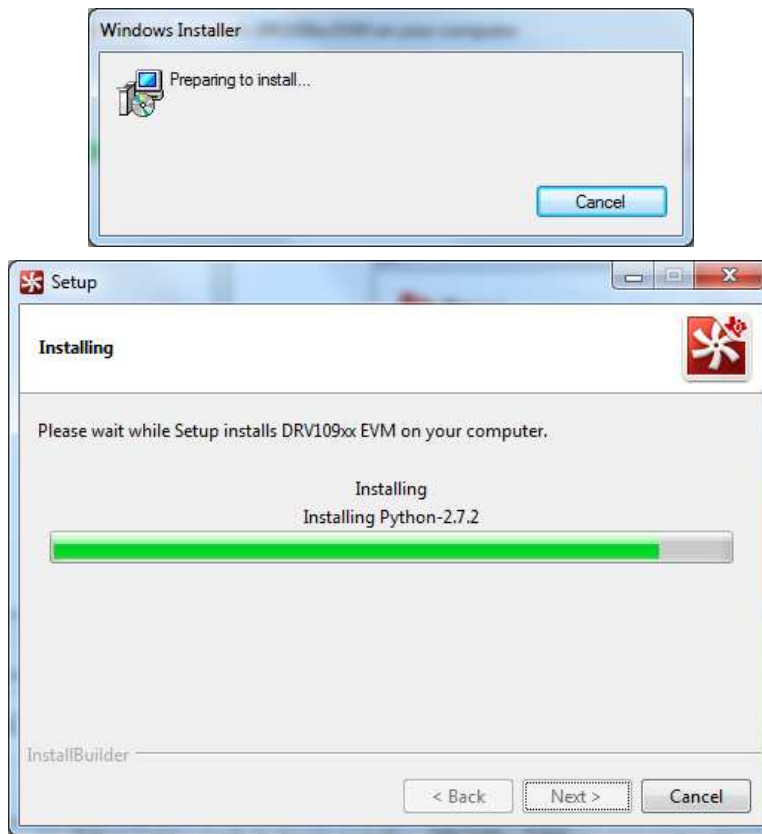

Figure 21. GUI Installation in Progress
- The installer begins self-extraction and proceeds with the installation as shown in Figure 21.